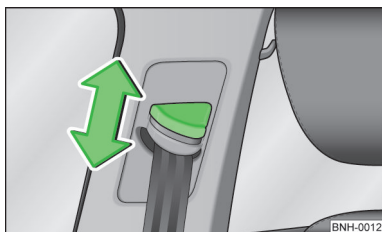

Fig. 157
- Press the height adjuster and move up or down in the desired direction » Fig. 157.